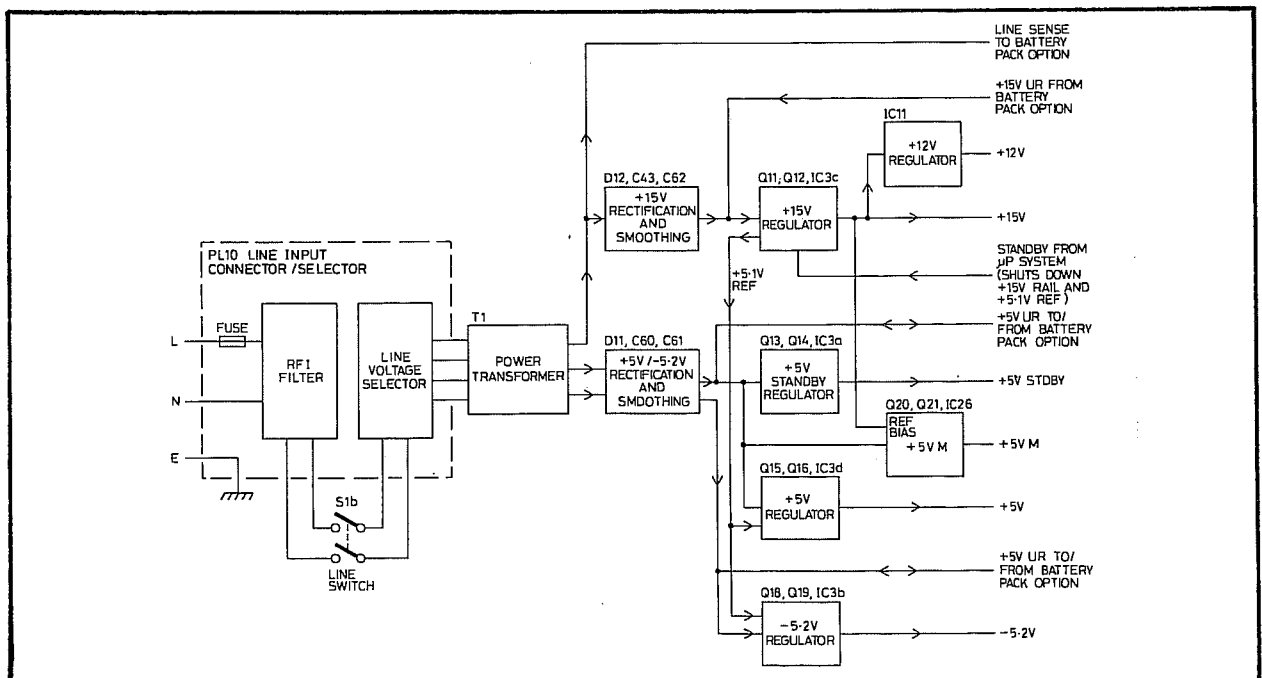

Fig 6.15 The Power Supply System
- 151 A block diagram of the Power Supply System is shown in Fig. 6.15. The power supply is mounted wholly on the motherboard assembly. The power supply accepts a wide range of AC line supplies and provides the following regulated DC supplies:
- (1) +15 V
- (2) +12 V
- (3) +5 V
- (4) +5 VM
- (5) +5 V STBY
- (6) -5.2 V